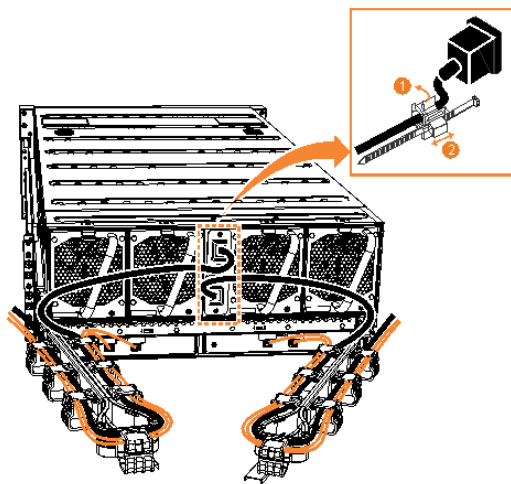

Figure 58. Secure power cables
2. Secure the power cables in the cable retainer at each power connector on the rear of the enclosure, as shown in Figure 58 on page 58. Also, ensure that each cable is installed along one of the cable management arms. The cable management arms also support the SAS cables.